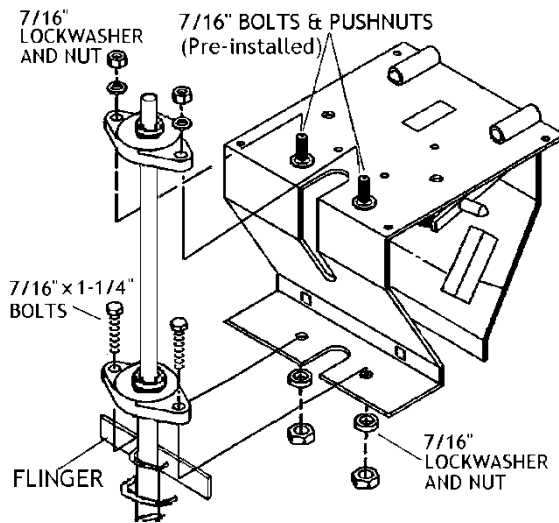

Fig. 37 – Installing down auger on carriage
99 Slide auger up through slot in carriage so top bearing rests on two pre-installed 7/16" x 1-1/2" bolts, which point up through top of carriage plate and are secured with push nuts. See Fig. 37.
100 Add 7/16" lock washers and nuts to pre-installed bolts to bolt top bearing to carriage. Tighten using 11/16" wrench. See Fig. 37.
- 101 Slide bottom bearing down and bolt to carriage with 7/16" x 1-1/4" bolts and 7/16" lock washers and nuts. Tighten using 11/16" & 5/8" wrenches. See Fig. 37.